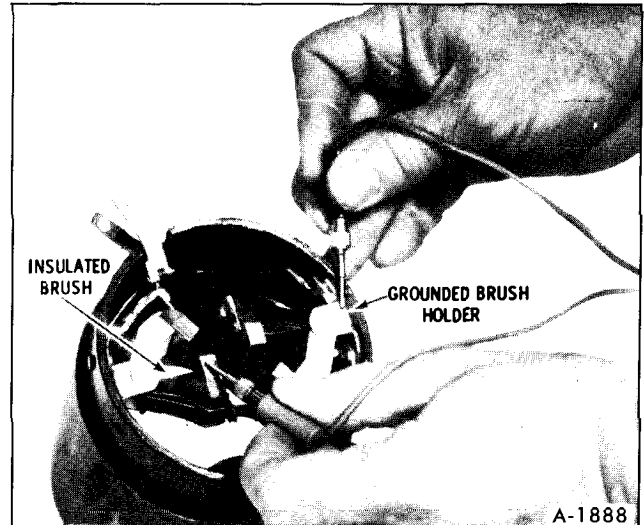

Figure 49—Checking Field Coil for Ground
d. Using a test lamp, place one lead on the grounded brush holder and the other lead on either insulated brush. (figure 49) If the lamp lights, a grounded series coil is indicated and must be repaired or replaced.